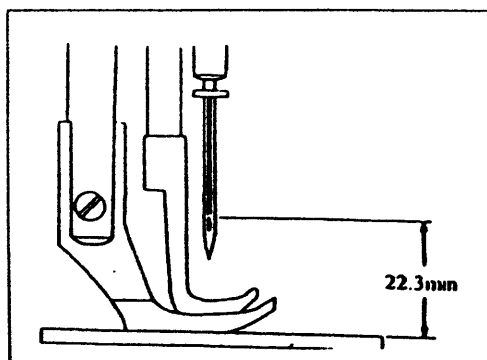

Fig.21
18. Adjustment of the height of the needle bar (Fig.21):